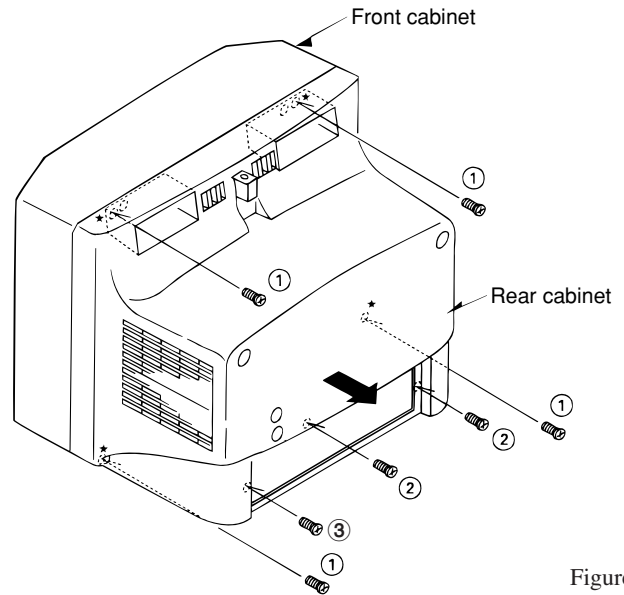

Figure 1-1
- (1) Remove four screws ①, two screws ② and one ③, then remove the rear cabinet in the direction of the arrow. (See Figure 1-1)